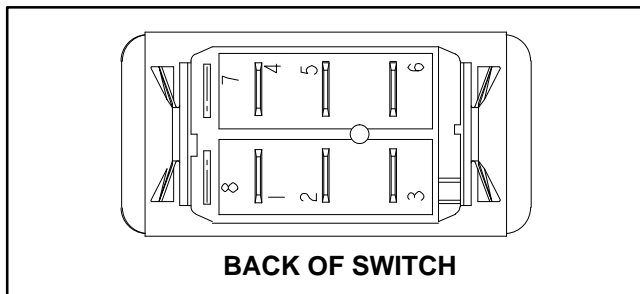

Figure 43
3. With the use of a multimeter (ohms setting), the switch functions may be tested to determine whether continuity exists between the various terminals for each switch position. The switch terminals are marked as shown (Fig. 43). The circuitry of this switch is shown in the chart below. Verify continuity between switch terminals for each switch position.